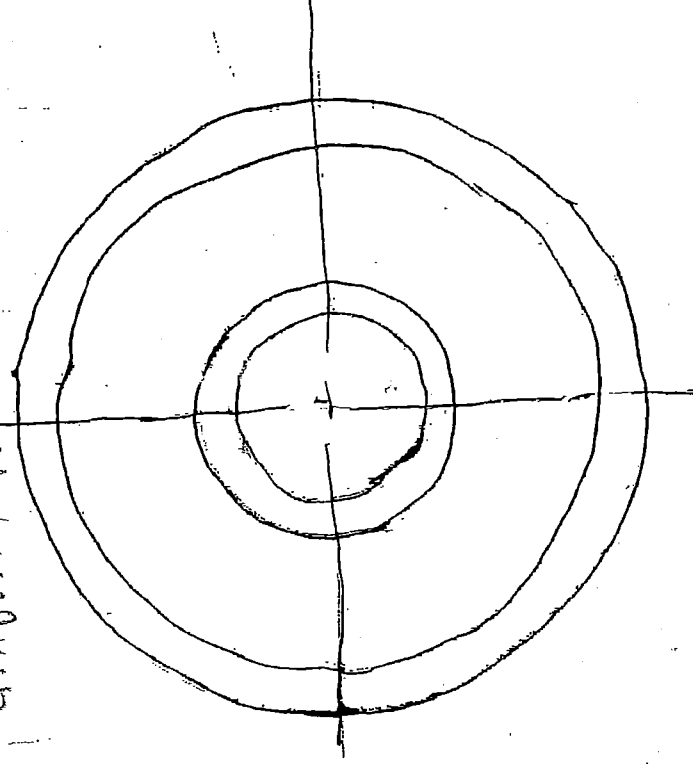

FIG.1
- (a) Fig. 1 shows an article to be produced out of M.F. powder. Design and draw a compression mould suitable for producing single article per cycle, showing sectional front view and top view, prepare bill of materials and insert major dimension on it. All dimensions are in mm Fig.1